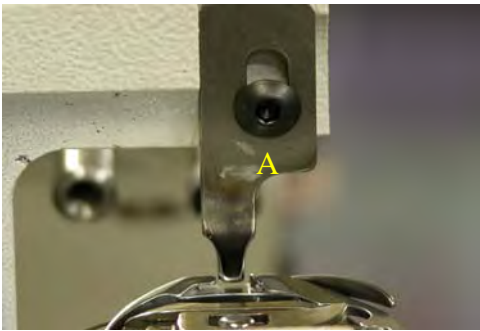

Figure 11.1
- Loosen screw A, in Figure 11.1 and adjust the stop finger so that the proper clearance is achieved as shown in Figures 11.1 and 11.2.